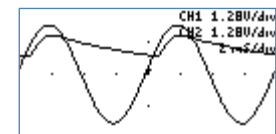

Figure 62: Half wave rectifier
- 5) The display should look like figure 62.